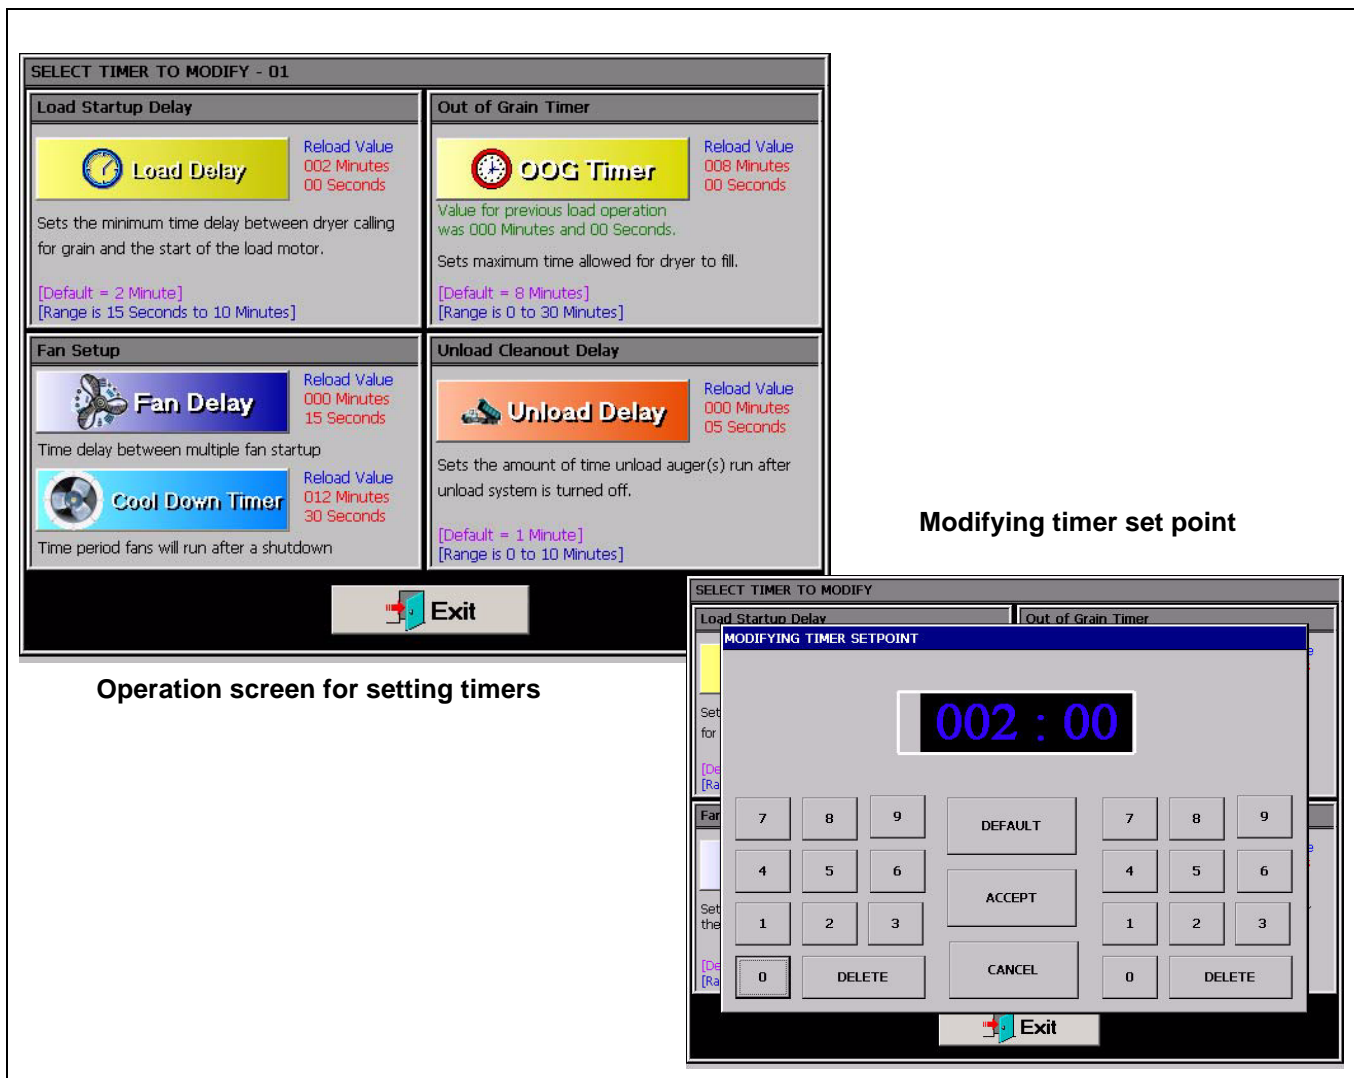

Figure 6C
Setting the timers for the dryer is a simple procedure. To set the timers, touch the  **Timers** button at the bottom of Operation screen. A new screen will appear called the Select Timers to Modify screen. (See Figure 6C on Page 32.) As you can see there are five (5) timers that you can modify:
To setup a timer touch the button of the timer you wish to modify. The Modify Timer Set Point screen will then be displayed. (See Figure 6C.) Note that there are two (2) number pads on this modify screen. The left number pad is used to modify the minutes and the right number pad will modify the seconds. Touching the Default button will automatically set the timer to the default set point for that timer. The Accept button will save the timer set point displayed in the time display. Touching Cancel will exit the Modify Timer Set Point screen without saving any changes and the timer will stay at the currently saved set point.